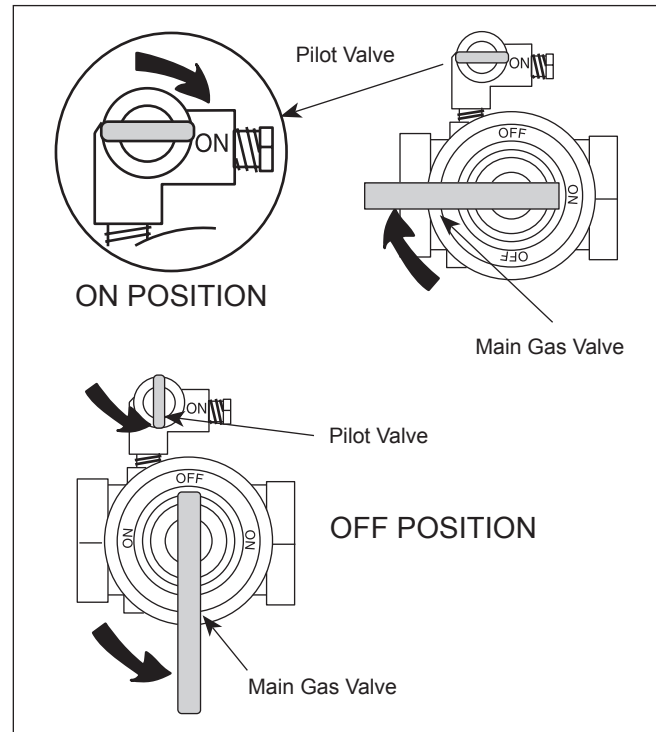

Figure 14 - Manual Gas Valves.
- b. Turn off all manual gas valves and wait five minutes (Figure 14).
second and the pilot spark ignition is initiated until the pilot flame has been reestablished. This sequence should be checked by turning off the manual pilot gas valve (see Figure 14), and, at the same time, monitoring the audible sparking at the pilot burner and signal interruption to the main valve.
System 16 - (electronically supervised standing pilot system). Extinguish the pilot flame by placing the manual pilot valve in the closed positions (see Figure 14), and at the same time, begin recording the time it takes for the output signal from the electronic ignition control to be interrupted. The signal interruption can be detected either with a test light or a voltmeter. The response time should never exceed one second.